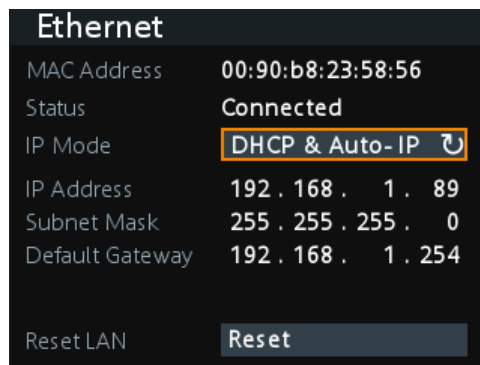

Figure 3-2: Ethernet settings dialog
3. **NOTICE!** If the R&S NGA100 cannot obtain an IP address automatically, or cannot establish the connection, the status shows "Disconnected" in the Figure 3-2. Possible reasons are that the LAN does not support DHCP or requires a specific TCP/IP configuration, or that the connection is missing.
If switched on and connected, the R&S NGA100 indicates the address information and LAN parameters in the Ethernet settings dialog. See Figure 3-2.